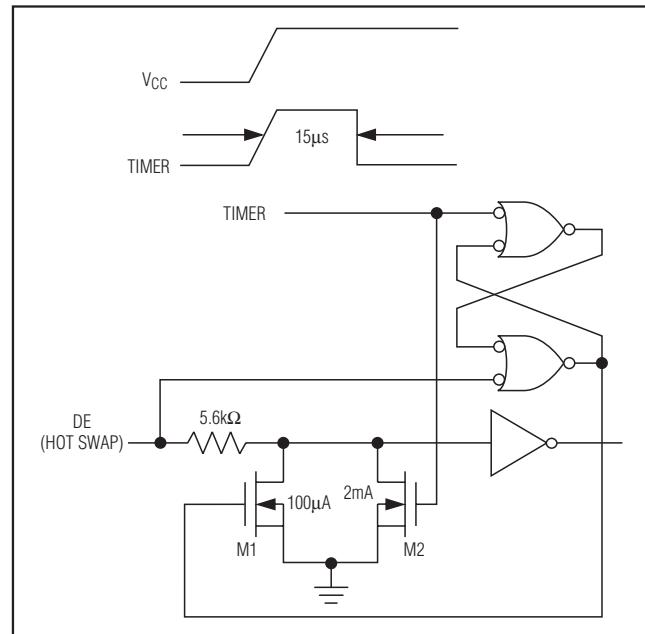

Figure 10. Simplified Structure of the Driver Enable Pin (DE)
At the driver-enable input (DE), there are two NMOS devices, M1 and M2 (Figure 10). When VCC ramps from zero, an internal $15\mu s$ timer turns on M2 and sets the SR latch, which also turns on M1. Transistors M2, a $2mA$ current sink, and M1, a $100\mu A$ current sink, pull DE to GND through a $5.6k\Omega$ resistor. M2 pulls DE to the disabled state against an external parasitic capacitance up to $100pF$ that may drive DE high. After $15\mu s$, the timer deactivates M2 while M1 remains on, holding DE low against three-state leakage currents that may drive DE high. M1 remains on until an external current source overcomes the required input current. At this time, the SR latch resets M1 and turns off. When M1 turns off, DE reverts to a standard, high-impedance CMOS input. Whenever VCC drops below $1V$, the input is reset.